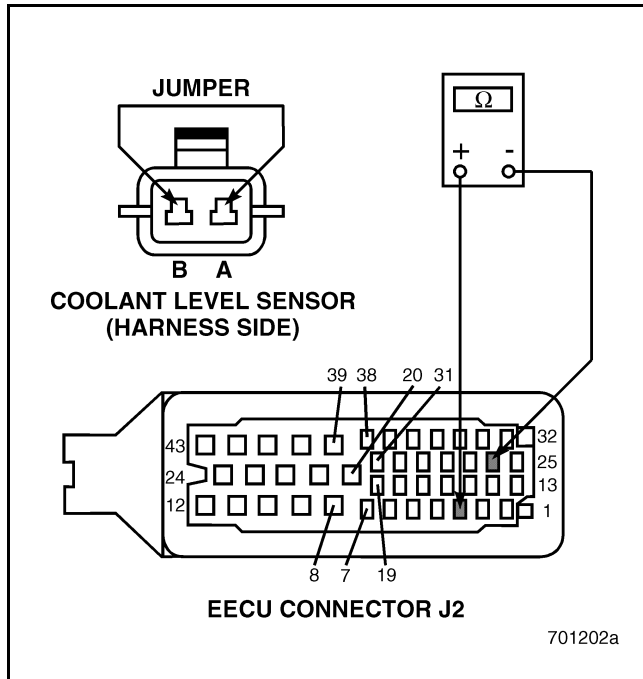

Figure 105
4. Check for continuity between Engine Electronic Control Unit (EECU) connector J2 pins 3 and 26 (see Figure 105).